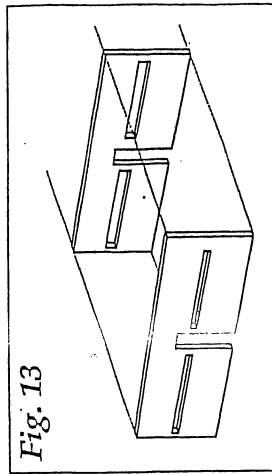

Fig. 13
11) Next, find the two large basswood alignment heads (parts 7 & 7A). Glue them squarely together, clamp, and set aside to dry (fig. 13).